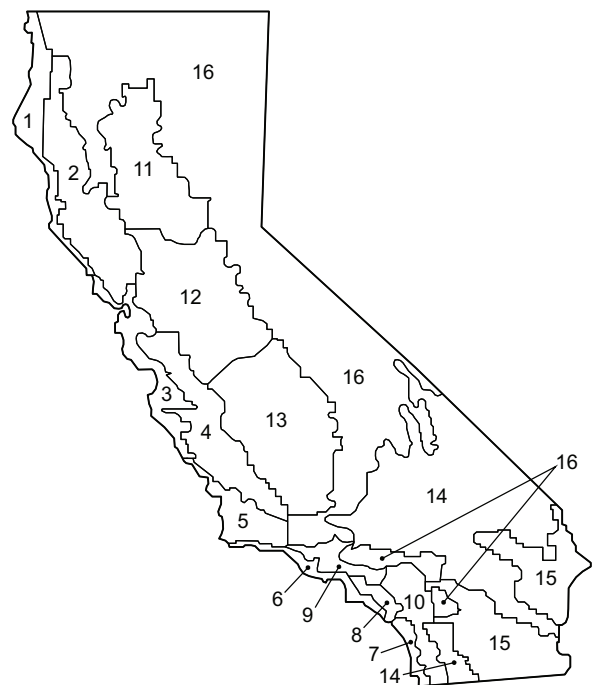

Fig. 90 — California Title 24 Zones
b. Refer to Fig. 90 for map of California Title 24 zones.